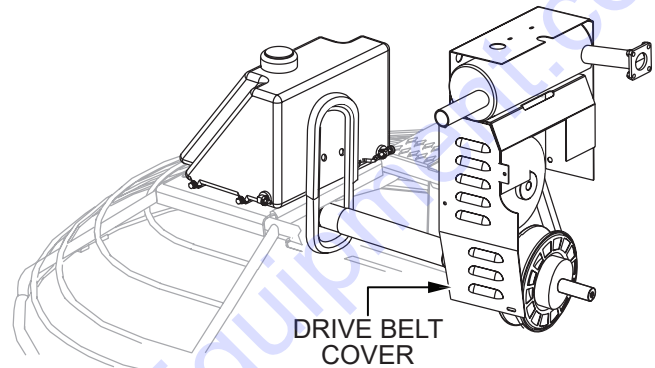

Figure 21. Drive Belt Cover
1. Remove the drive belt cover (Figure 21).